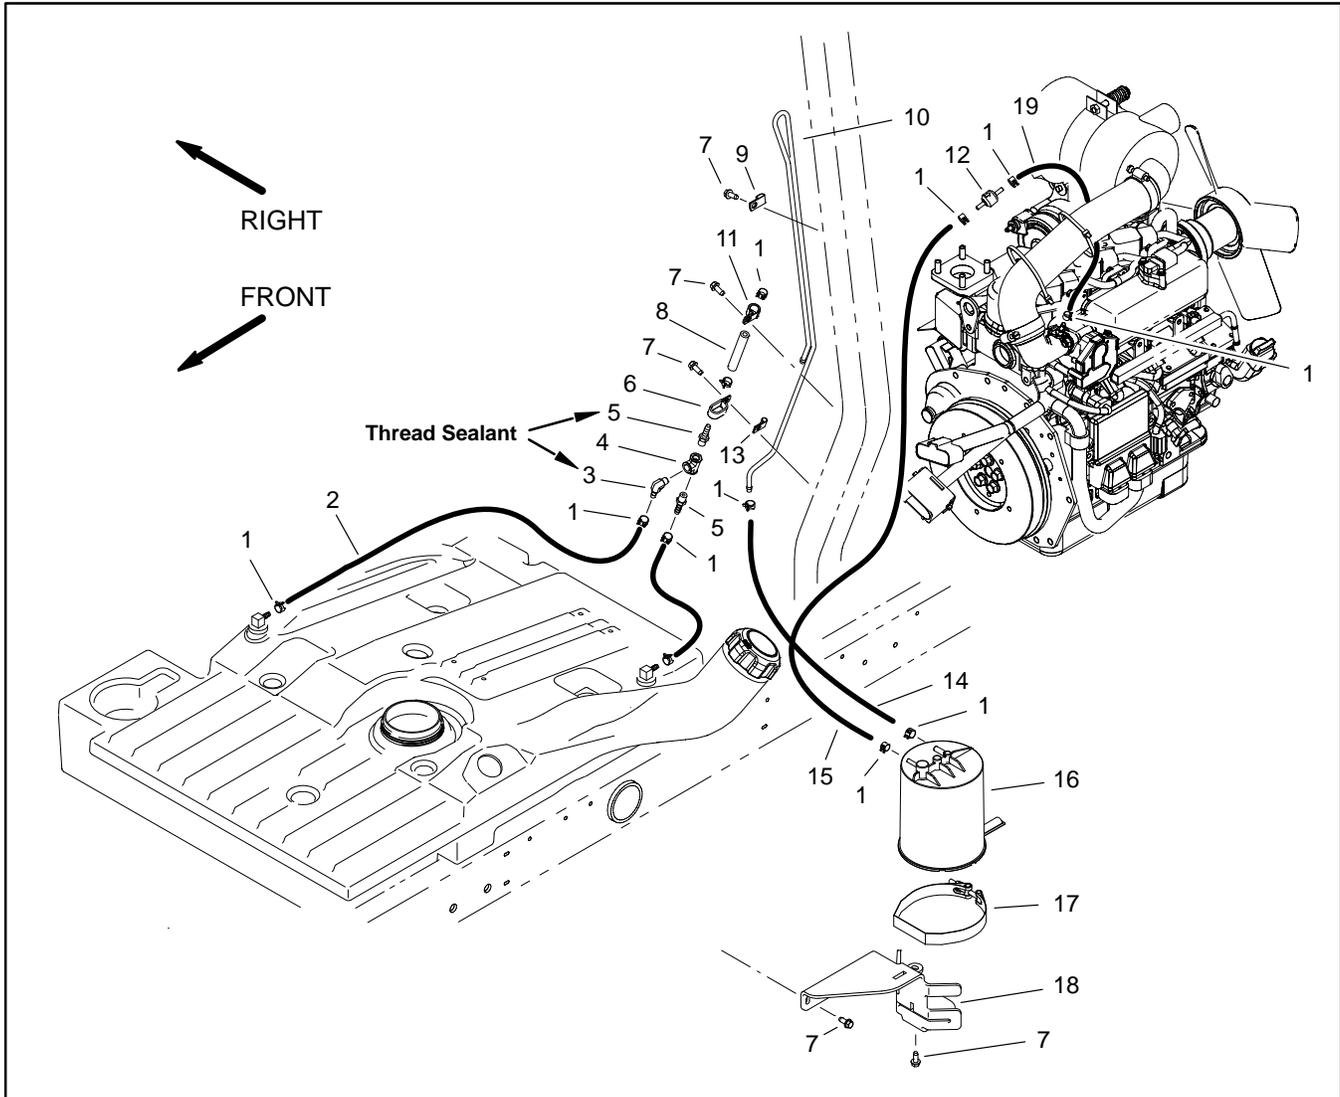
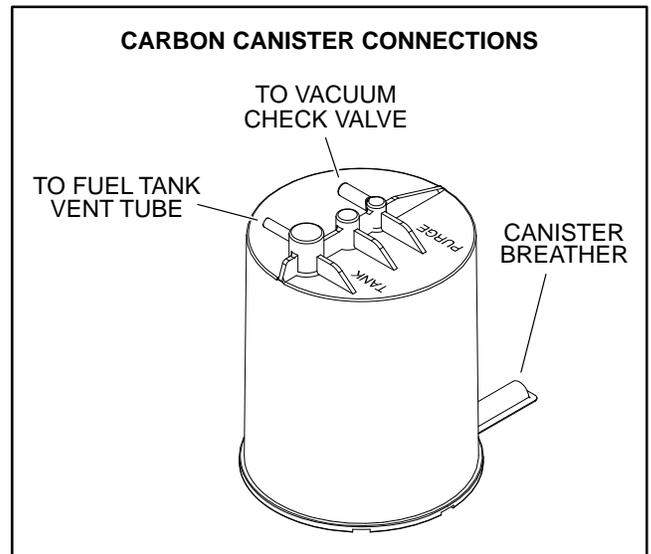

Figure 7
Figure 9
4. Note hose routing, cable tie and anchor clamp locations. Remove fuel evaporative control system components as needed (Fig. 7).
1. Install all removed EVAP components. Make sure that fuel hoses are not kinked after installation. Secure all hoses with hose clamps, anchor clamps and cable ties as shown (Fig. 7 and 8). If hoses were removed from the carbon canister, check hose connections for correct system operation (Fig. 9).